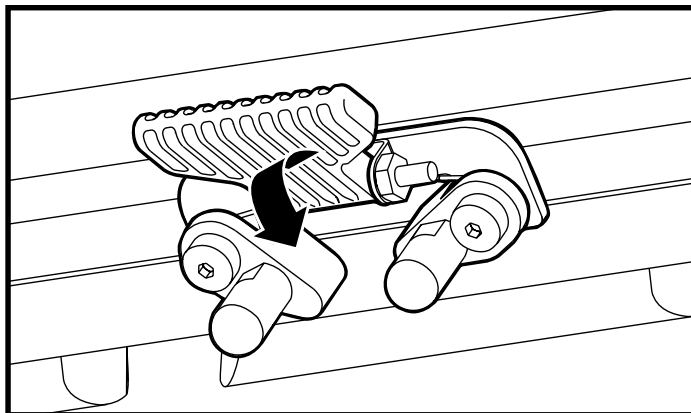

Figure 11a. Seat Installation (Seat Latch Safety)
4. Flip the seat latch safety down. See figure 11a.